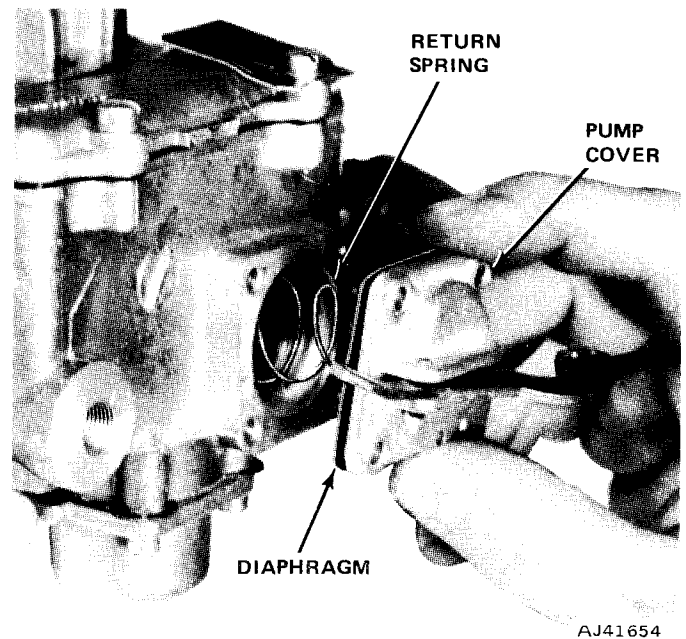

Fig. 4-48 Removing Accelerator Pump Assembly
(17) Remove accelerating pump cover attaching screws. Remove accelerating pump cover, diaphragm assembly, and spring (fig. 4-48).
(18) Remove Elastomer valve by grasping firmly and pulling out.